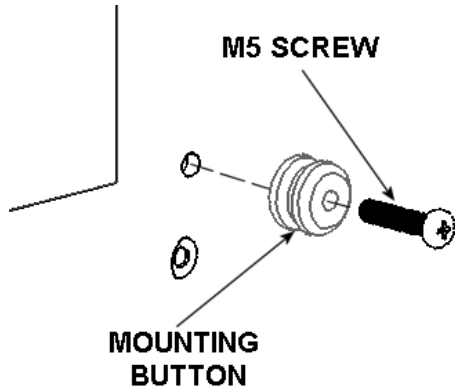
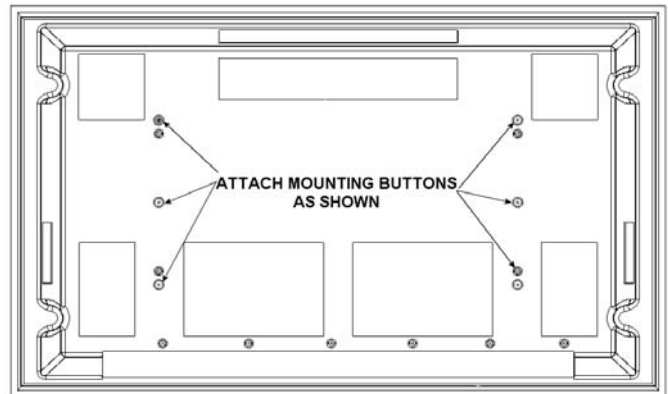

Figure 4
Figure 5
2. Attach mounting buttons to the display using the M5 screws provided (see Figure 4 & Figure 5).